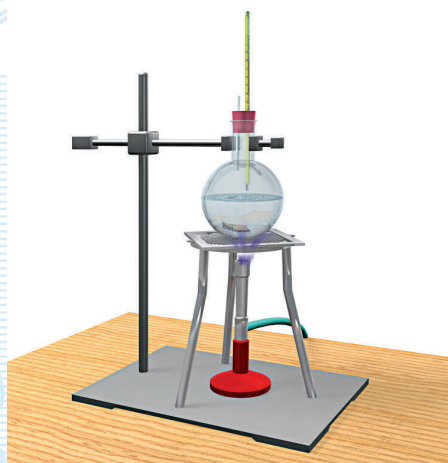

Fig. 8.1 : *Determination of Boiling point of water*
2. Take about 150 mL water in the round bottom flask and close its mouth with a two-holed stopper. Fix the thermometer through one of the holes in the cork and a glass tube through the other [Fig. 8.1]. Make sure that the bulb of thermometer hangs in air and is not in contact with water in the flask.